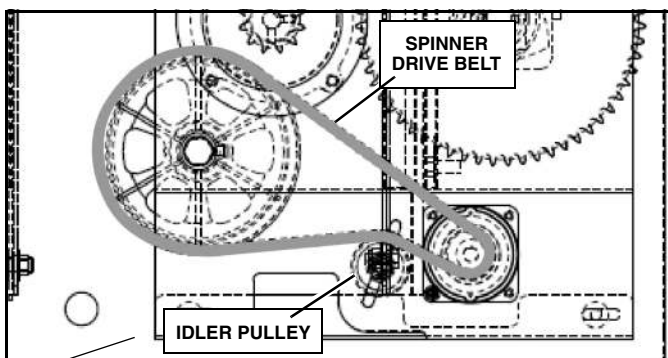

Figure 1-4
5. After installing the drive belt on the driven pulley, adjust the belt for 1/2" of deflection and tighten the idler pulley securely. Check the pulley alignment and belt tension again and adjust as required. (See Figure 1-4).